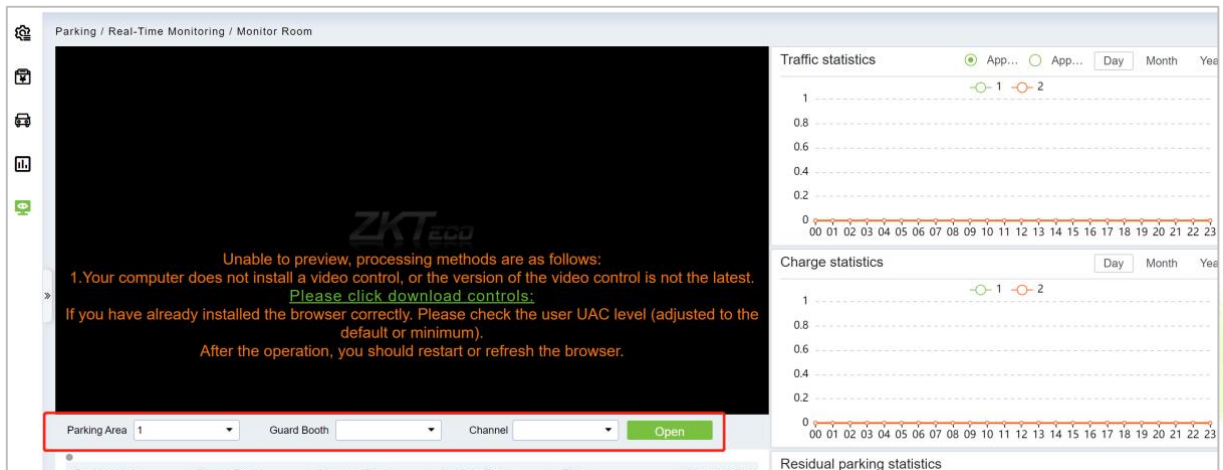

Figure 9-56 Switch Interface
Step 2: In the monitor room interface, click "Open Gate-Enter License Plate Number-Confirm Open Gate", as shown in Figure 9-56.